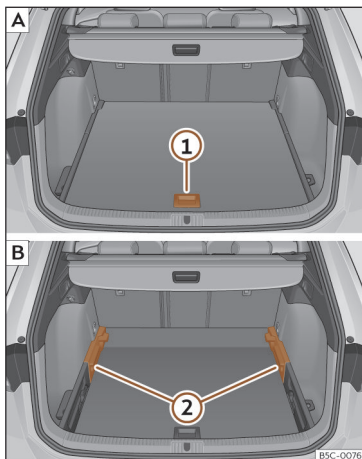

Fig. 123 Variable luggage compartment floor: **A** raised position; **B** lowered position.
- To move from the low position to the high position, lift the floor using the handle >>> **Fig. 123 ①**, and pull it back until the front of the floor has fully passed the supports >>> **Fig. 123 ②**.
- Move the floor forward over the supports as far as the rear seat backrest and then lower the floor with the handle **①**.
- To move from the high position to the low position, lift the floor using the handle >>> **Fig. 123 ①**, and pull it back until the front of the floor has fully passed the supports >>> **Fig. 123 ②**.
- Now let the front part fall to the floor and slide the floor forwards as far as the rear seat backrest; lower the floor at the same time with the handle **①**.
- Lift the variable floor in the high position using handle >>> **Fig. 123 ①**, pull it up and push it towards the backrest of the rear seats until it folds along the hinge line and the movable part of the floor is resting on itself.